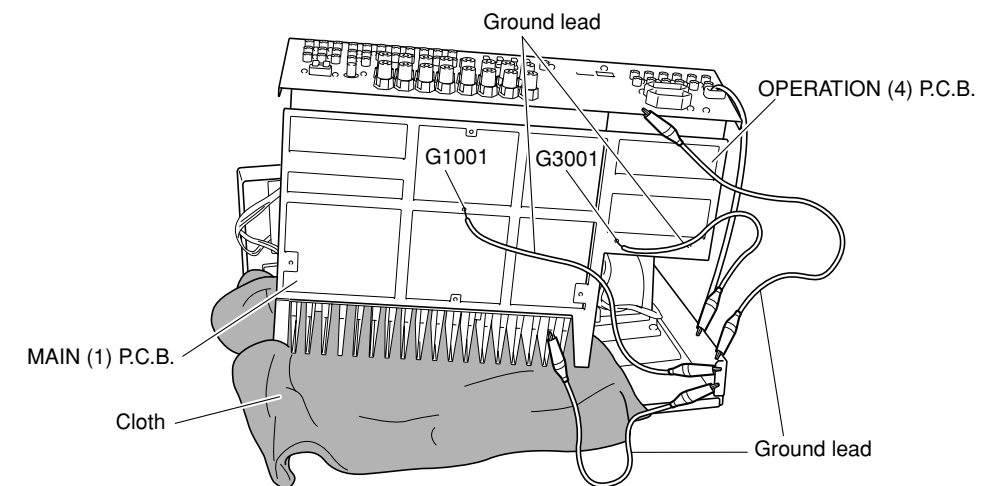

Fig. 6
- Put a Cloth over the equipment. Put the P.C.B.s together with the heat sink upright on the Cloth and check them. (Fig. 6)
- The P.C.B. removed from the chassis does not work because its grounding is loose. Be sure to connect the ground of Rear Panel, MAIN (1) P.C.B. (G1001) and OPERATION (4) P.C.B. (G3001) to the chassis with a ground lead or the like.